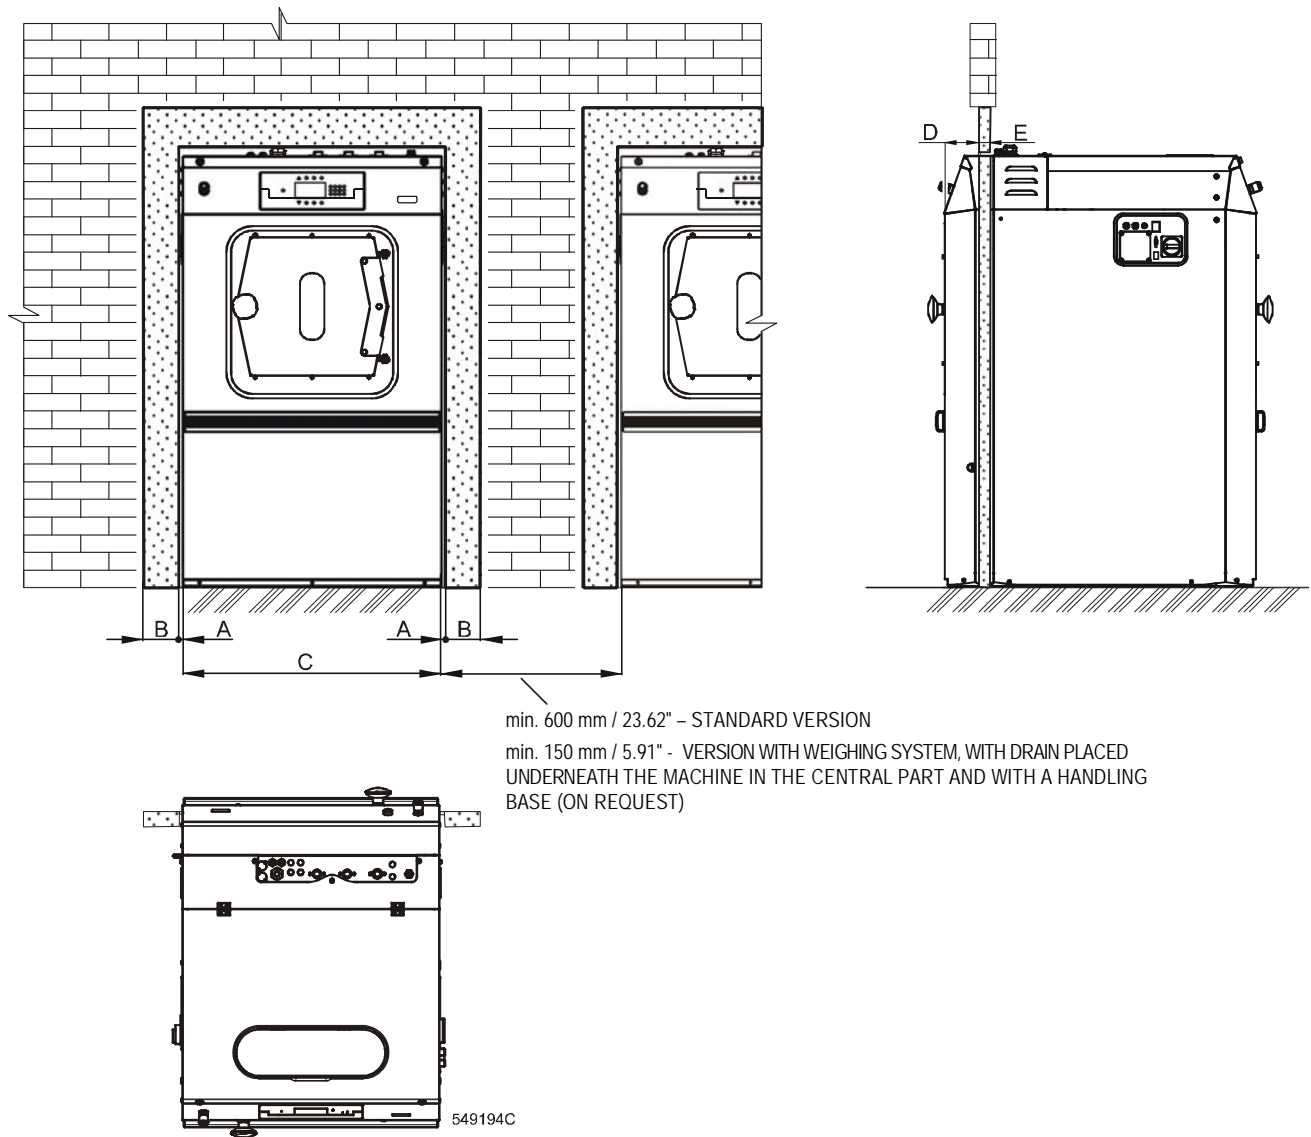

Figure 5
- Place the machine on its final position – see Figures 5, 6.